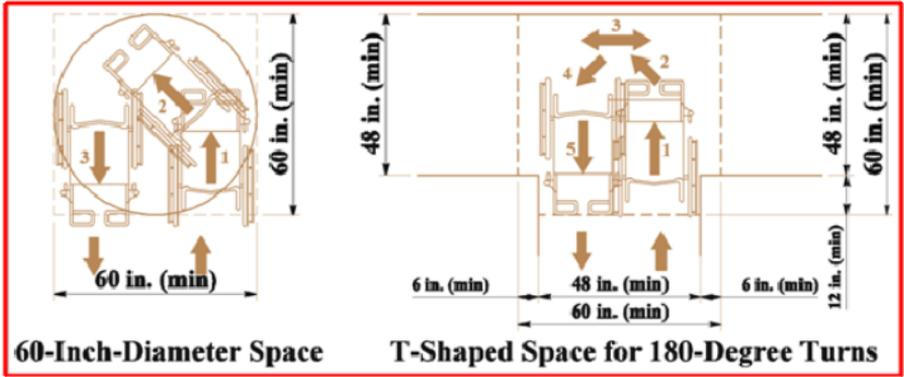

Figure 9. Wheelchair Turning Space (ADAAG)
- If the path requires a 180-degree turn, the turning pad must be at least 60 inches deep. (See Figure 9.)